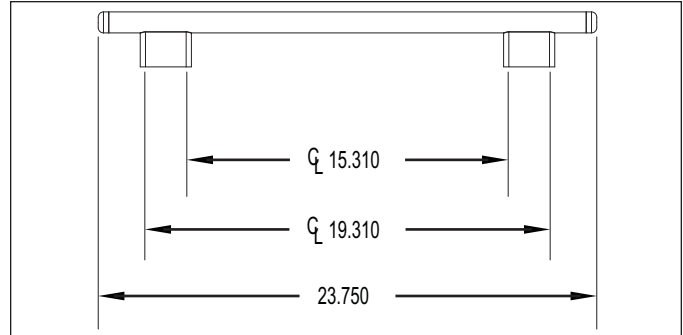

Figure 1. 1" Handle Dimensions
1. Mark custom panel to locate the drill holes using the center-line dimensions from Figure 1. Drill four (4) 7/32" to 1/4" holes.